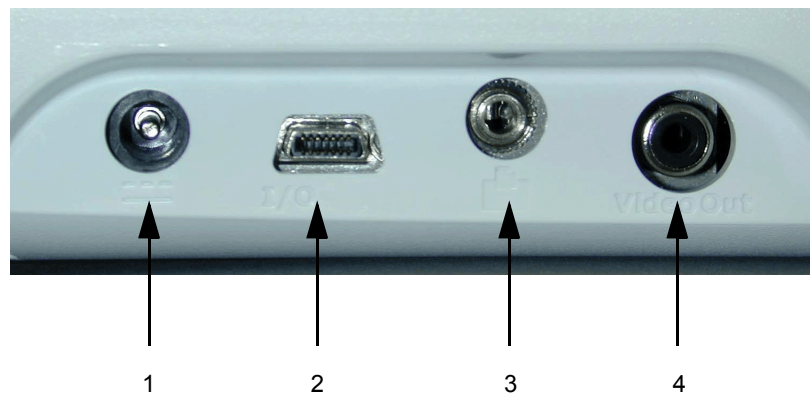

Figure 4.6 System Connections
- 2 Connect the DC line cord of the AC power adapter to the power connector on the system. (1) (Figure 4.6 and Table 4.2).